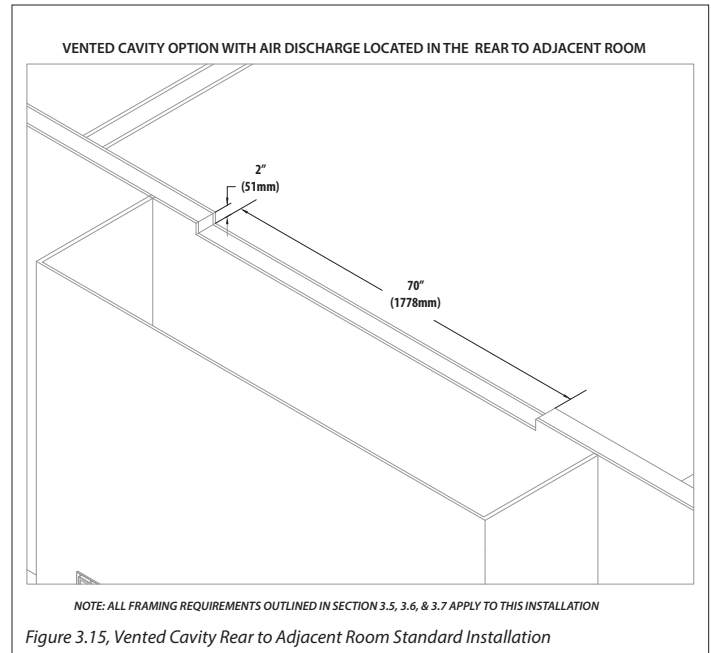

Figure 3.15, Vented Cavity Rear to Adjacent Room Standard Installation
- Figure 3.15 shows the minimum required dimensions for the vent cavity air discharge opening. This single 2" x 70" air discharge opening can be in either the front of the fireplace chamber, so hot air exits into the room the fireplace is installed, or the discharge opening can be in an adjacent room where the discharge opening would be located on the rear of the fireplace chamber. See Figure 3.15.